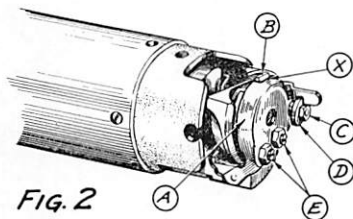
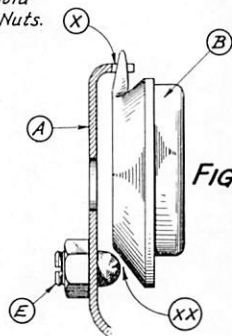

FIG. 2
FIG. 1A
Excessive clearance at (XX) Fig. 1A will cause rattling of Bobbin Case (B).
Adjust for clearance at point (X) Fig 1A by means of Adjusting Screws (E) Fig 2 using same procedure as outlined in the above 2nd STEP.
The clearance between Bobbin Holder (A) and Bobbin (B) at (X) (See Figs. 2 and 1A) should be approximately $\frac{1}{32}$ of an inch. To adjust, loosen Lock Nut (C) Fig. 2 and turn Threaded washer (D) in or out until the desired clearance is obtained. Holding Threaded Washer (D) in position, tighten Lock Nut (C) securely.